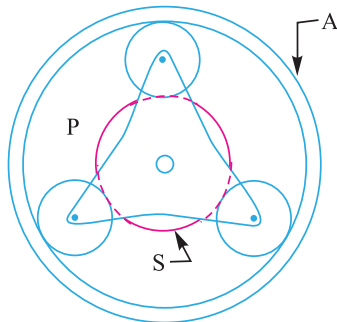

Fig. 13.48
19. An epicyclic gear train for an electric motor is shown in Fig. 13.48. The wheel S has 15 teeth and is fixed to the motor shaft rotating at 1450 r.p.m. The planet P has 45 teeth, gears with fixed annulus A and rotates on a spindle carried by an arm which is fixed to the output shaft. The planet P also gears with the sun wheel S . Find the speed of the output shaft. If the motor is transmitting 1.5 kW, find the torque required to fix the annulus A .